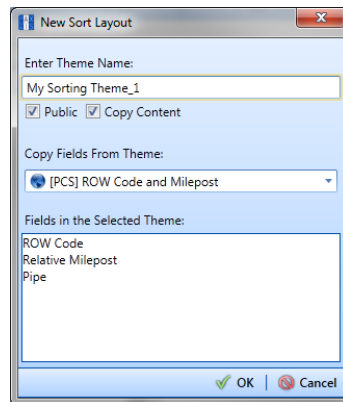

Figure 13-34. New Sort Layout
- 5 Click the  **Add** button to open the *New Sort Layout* dialog box (Figure 13-34).